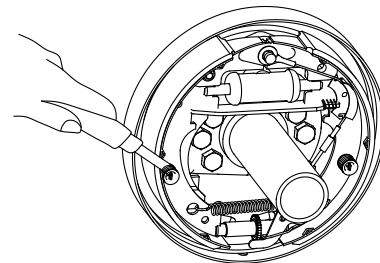

Fig. 2-12
(3) Remove three hold-down springs. (See Fig. 2-12)